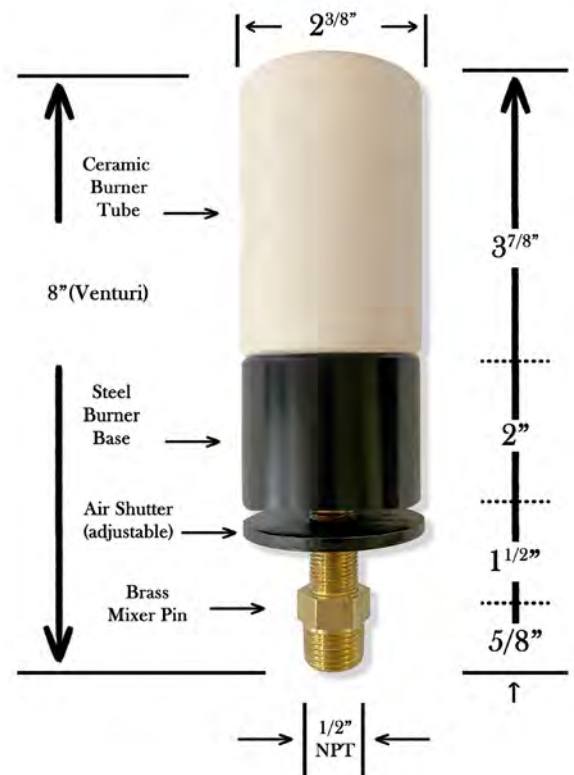

Figure 6
1. Depending on the frequency of your firings you should inspect the kilns burners. You can unscrew them from the brass mixer pin and make sure that the burner tubes are clean and free of any obstruction. **(See Figure 6).**
2. Check the air shutter and make sure that it turns smoothly and that it is adjusted properly. Normally, these shutters should be adjusted to approximately $\frac{1}{2}$ - $\frac{5}{8}$ in. (1.25 - 1.6 cm) open from the bottom of the metal burner tube. **(See Figure 6).**
Your Laguna kiln utilizes high efficiency, natural draft, ceramic tip (**Figure 6**), venturi burners. Prior to shipping, your kiln was test fired, and the burners were adjusted to ensure the proper air-to-gas mixture. Although not likely, it is possible that during the shipping and installation of your kiln one or more of the air shutters (**Figure 6**) were inadvertently rotated changing the gas-to-air mixture and subsequently the quality of the flame.
1. Open the air shutter on each burner approximately $\frac{5}{8}$ inch (**Figure 6**).